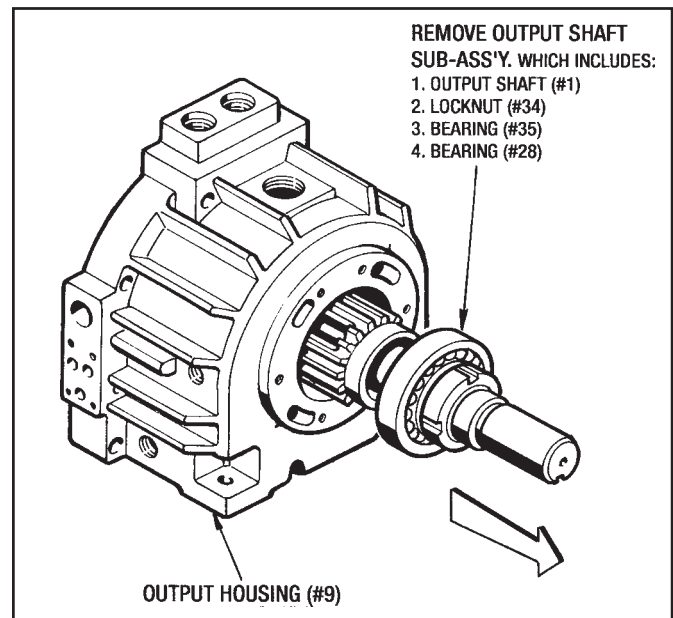

Figure 7.4 - Removing Output Shaft
6. With a mallet, tap the Output Shaft out of the Output Housing as shown in *Figure 7.4*.